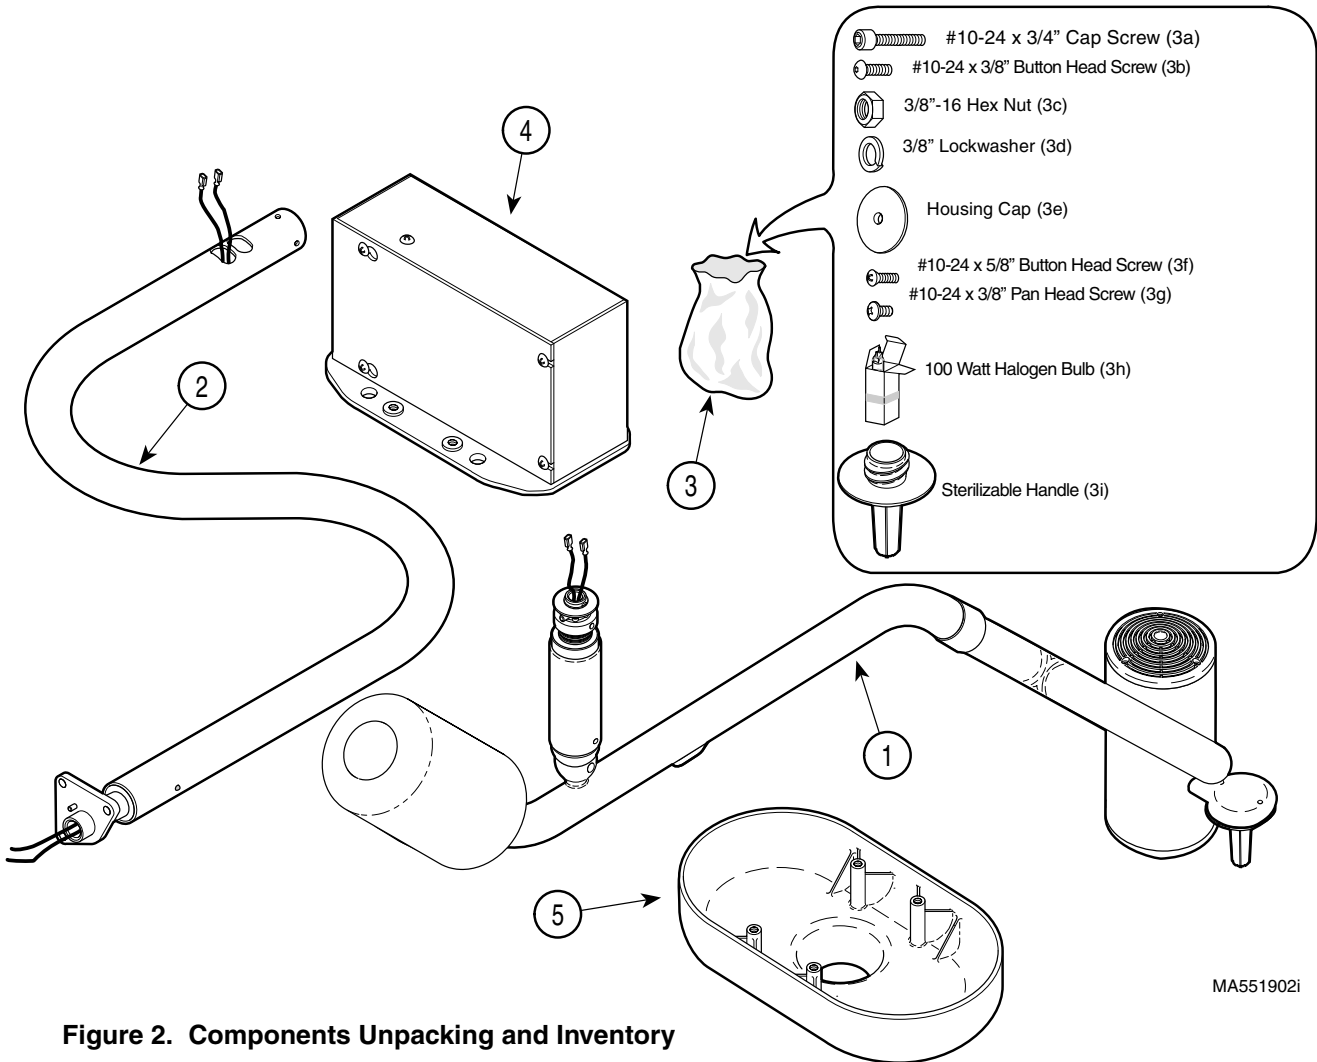

Figure 2. Components Unpacking and Inventory
Below is a list of all the items which should be included in the shipping box(es). The first quantity indicates the number of items which should be present for a single lighting assembly while the second quantity indicates the number of items which should be present for a dual lighting assembly (Refer to Figure 2).
(1) Cut banding and remove box lid from box.
- (2) Remove one / two cross tube/lighthouse assembly (1, Figure 2) and inspect.
- (3) Remove one/two down tube assembly (2) and inspect.
- (4) Remove one/two bag(s) (3) and inventory contents; the following items should be included: